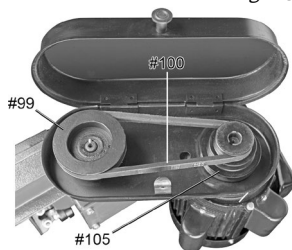

Fig. 29
3. Remove the old V-Belt from the two Pulleys (#99, 105) (Fig. 29).